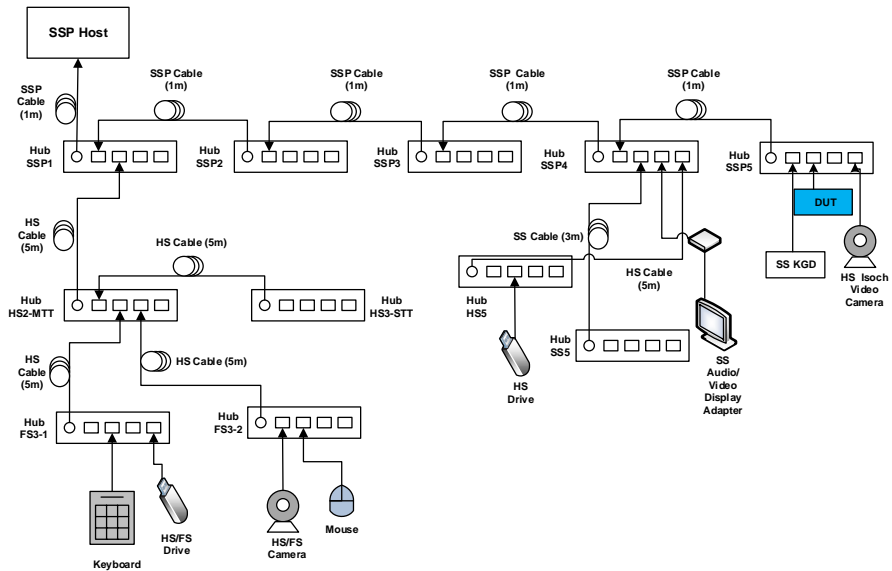

Figure 11-6: Modified Device SSP Interoperability Interim Tree (with SSP Hubs Interop Tree)
- Disconnect the SSP device from root port and connect it behind SSP5 (refer to Figure 11-6)
- Disconnect the SSP device from SSP5 and connect it behind SS5 (refer to Figure 11-6)
- Disconnect the SSP device from SS5 and connect it behind HS5 (refer to Figure 11-6)